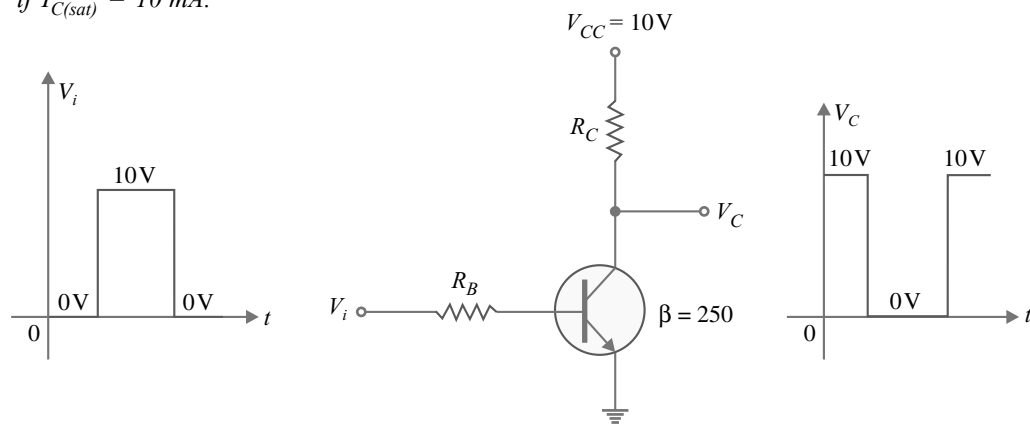

Fig. 16.8
**Example 16.2.** Determine the values of  $R_C$  and  $R_B$  for the transistor switch of Fig. 16.8 if  $I_{C(sat)} = 10 \text{ mA}$ .